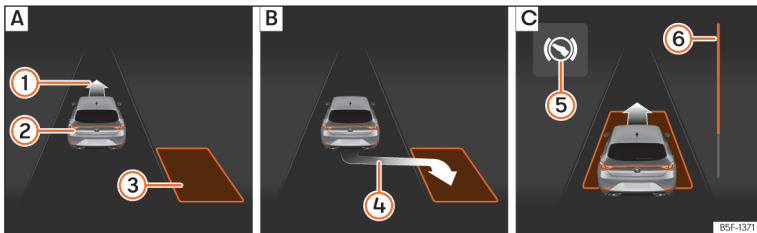
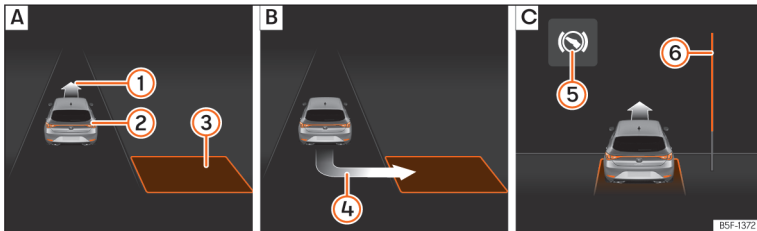

Fig. 152 On the instrument cluster display: angle parking. **A**: Finding a parking space **B**: Parking position. **C**: Manoeuvring.
Fig. 153 On the instrument cluster display: angle parking. **A**: Finding a parking space **B**: Parking position. **C**: Manoeuvring.
- Look at the instrument cluster screen to see if the space has been detected as “appropriate” and if the correct position for parking has been reached >>> Fig. 152 **B** or >>> Fig. 153 **B**. The space is considered “appropriate” if the instrument cluster display shows the parking indication 4.
- Reverse until the continuous ParkPilot signal sounds; **OR:** reverse until the indication to move forward appears on the instrument panel display >>> Fig. 152  or >>> Fig. 153 ; **OR:** reverse until the **Park Assist finished** message appears on the instrument cluster display. The progress bar  indicates the distance to cover.
- Move forward until the continuous ParkPilot signal sounds; **OR:** move forward until the reverse indication appears on the instrument panel display. The Park Assist system steers the vehicle forward and back until it centres it in the space >>> Fig. 152  or >>> Fig. 153 .
The progress bar >>> Fig. 152  and >>> Fig. 153  on the instrument cluster display shows the relative distance to be covered as a symbol. The greater the distance, the fuller the progress bar. When driving forward, the content of the progress bar decreases upwards, and when reversing, it decreases downwards.